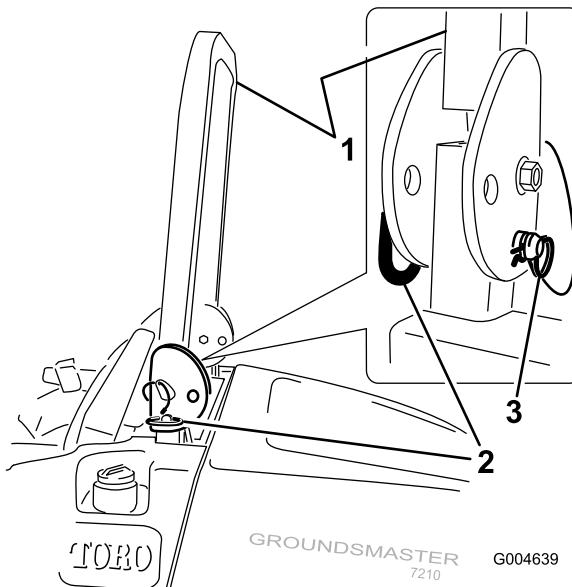

Figure 13
1. To lower the roll bar, remove the hairpin cotter, push the roll bar forward against the springs, and remove the two pins (Figure 13).
3. Install the two pins and secure them with the hairpin cotter pins (Figure 13).
4. To raise the roll bar, remove the hairpin cotter pins and remove the two pins (Figure 13).
5. Raise the roll bar to the upright position and install the two pins and secure them with the hairpin cotter pins (Figure 13).